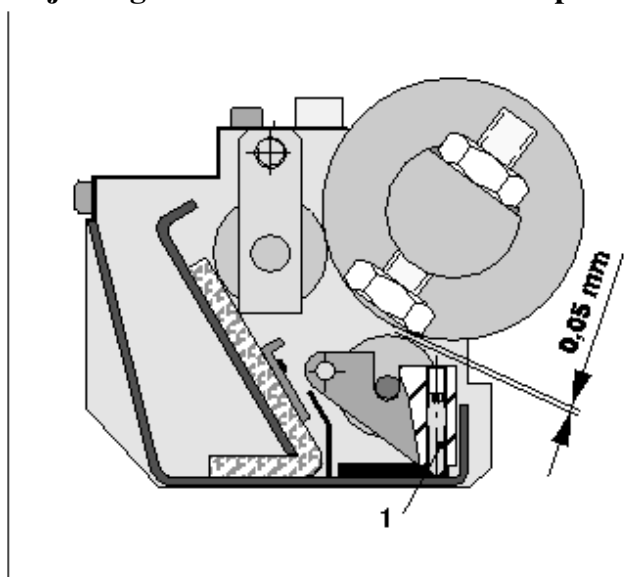

Fig. 19 Blanket washup device PU 4
2. Turn the grub screw (Fig. 19 /1) on D.S. and O.S. until there is a **0.05 mm** gap. Use a feeler gauge to check.